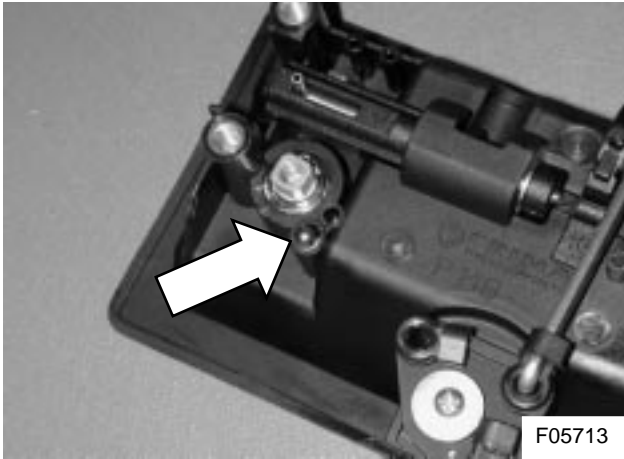

Figure 12: Ball installation
5) Refit the ball (see Figure 12).